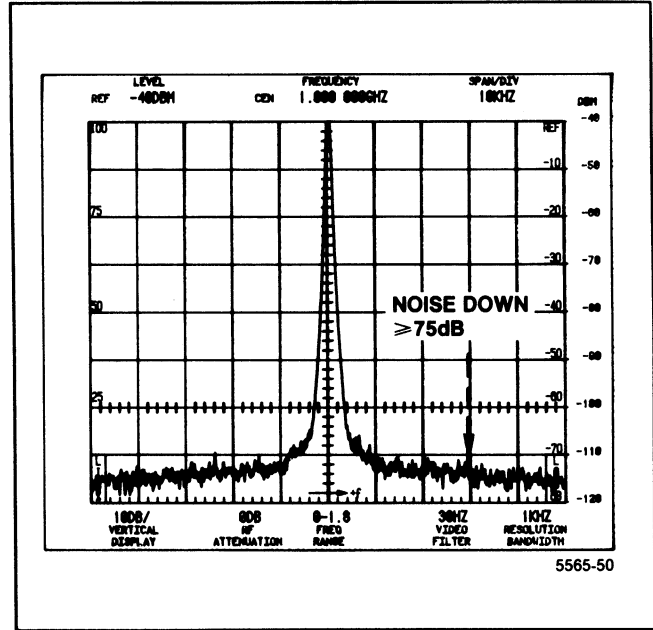

Figure 4-11. Typical display for measuring noise sidebands.
b. Check that the amplitude of the noise sidebands are 55 dB or more down from the reference level at 30 times the resolution bandwidth (3 divisions away from the center frequency position). See Figure 4-11.